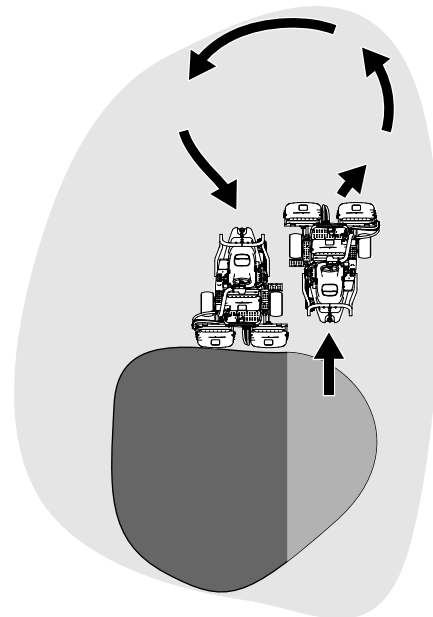

Figure 33
6. To cut down on operating time and to ease the lineup for the next pass, momentarily turn the machine in the opposite direction, then turn it in the direction of the uncut portion. This movement is a tear-shaped turn (Figure 33), which quickly lines the machine up for your next pass.